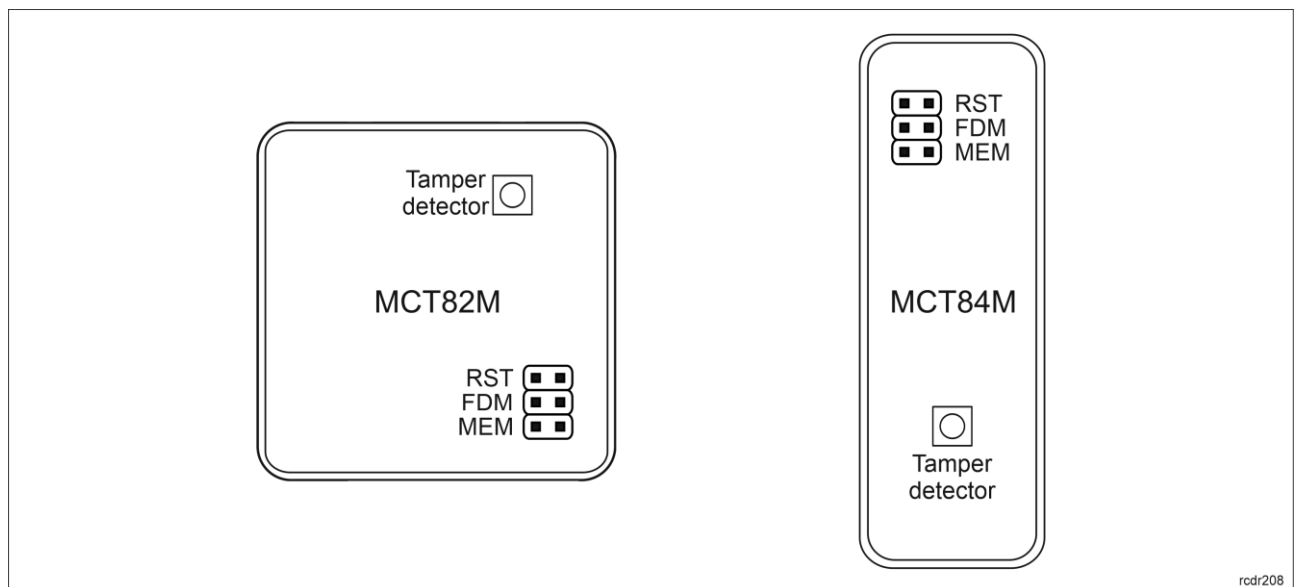

Fig. 4 Programming jumpers
Built-in tamper (sabotage) detector enables detection of unauthorized opening of device's enclosure as well as detachment of the enclosure from wall. The detector is internally connected to the terminal's input. It does not require low level configuration (RogerVDM) or any additional installation arrangements but it is essential to mount front panel in such way as the tamper detector (fig. 4) would firmly press the back panel. The detector requires high level configuration which consists in assignment of the function [133] *Tamper Toggle* on the level of a *Main Board* of a controller in VISO software navigation tree.
- Front panel should be attached in such way as the tamper detector (fig. 4) would firmly press the back panel.
2. Place jumper on MEM contacts (fig. 4).